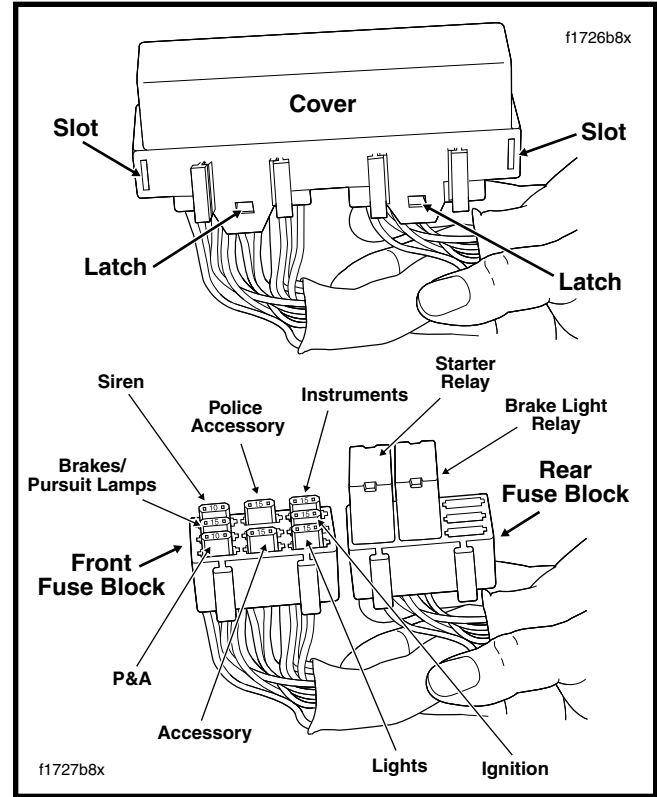

Figure 43. Fuse Blocks (Under Left Side Cover)
5. Pull fuse blocks from tabs on mounting panel. Tabs on panel fit into slots on each side of fuse block cover. To remove the cover, raise the latches slightly to disengage the tabs on the fuse blocks. See Figure 43.